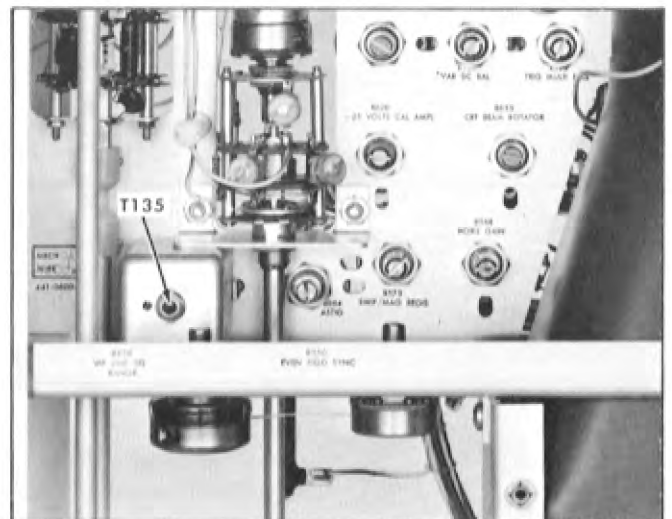

Fig. 6-36. Location of transformer T135.
30. Adjust Vertical-Amplifier Chroma Frequency Response (T135) ❶
- g. Adjust the bottom powdered-iron slug in T135 (see Fig. 6-36) to obtain 100 IEEE units of vertical deflection.